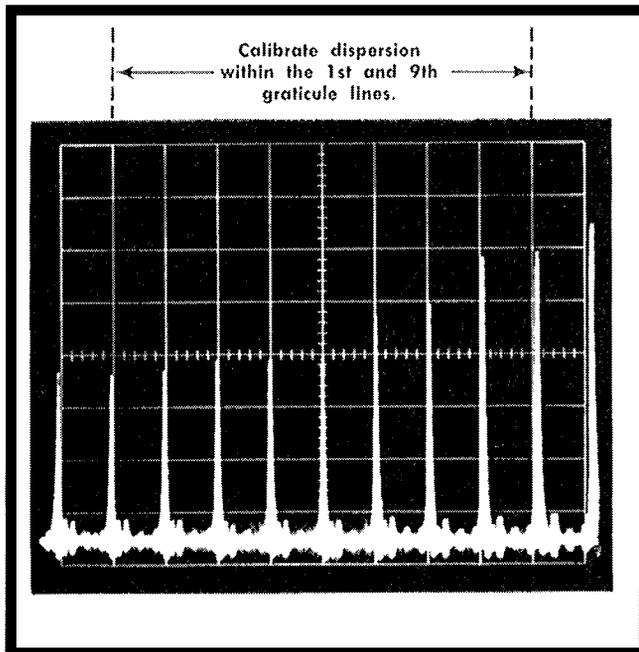

Fig. 2-10. 1 MHz MARKERS OUT (Phase lock reference) connector. DISPERSION 1 MHz/div.
d. Adjust the DISPERSION-CAL for 1 marker/division. Use the Horizontal POSITION control or the IF CENTER FREQ control to align the markers to the graticule lines. Dispersion is calibrated over the center 8 divisions of the display. See Fig. 2-10.